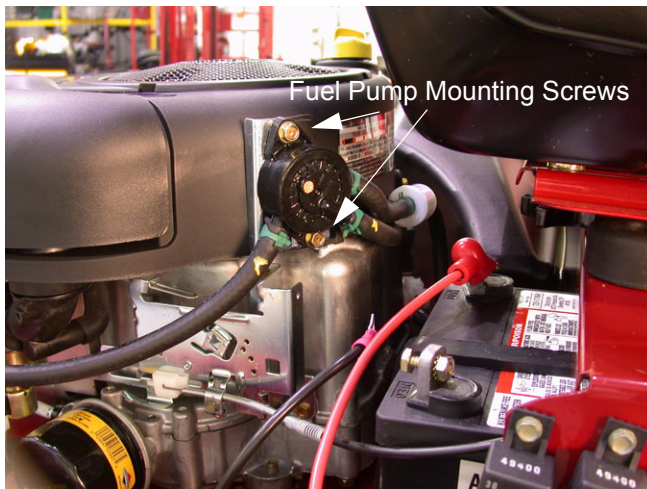

Figure 14.4
- 14.4. Using a 3/8" wrench remove the two screws securing the fuel pump to the engine. The hoses don't need to be removed. See Figure 14.4.